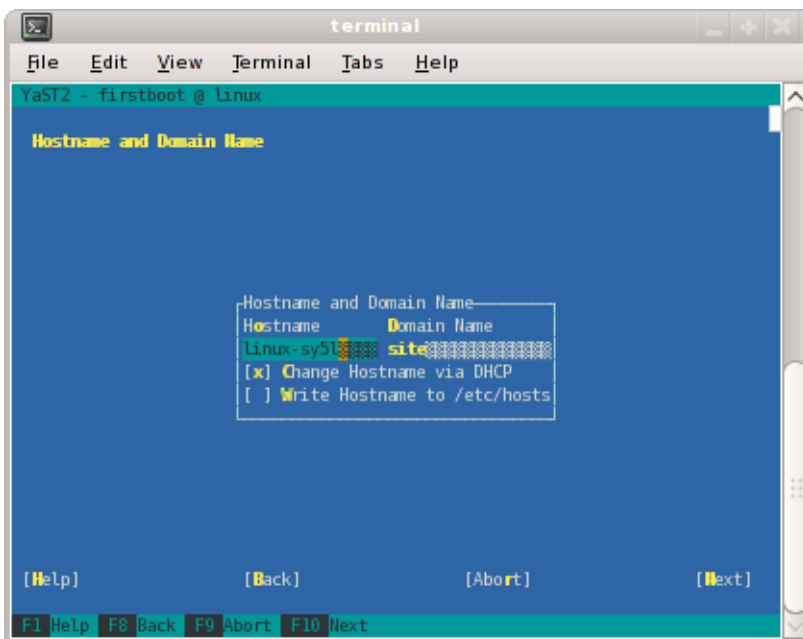

Figure 1-7 Hostname and Domain Name Screen
5. From the **Hostname and Domain Name** screen, as shown in Figure 1-7 on page 14, enter the hostname and domain name of your system in the appropriate fields. Make sure that **Change Hostname via DHCP** is **not** selected (no **x** should appear in the box). Note that the hostname is saved to `/etc/hosts` in step 10, below. Click the **Next** button to continue.